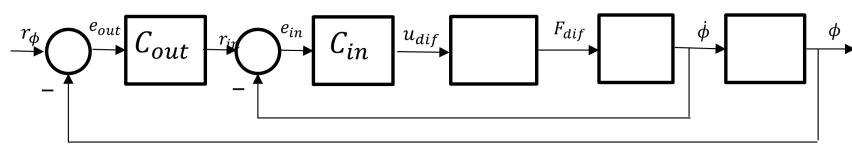

Figure 2: Controller block diagram for the drone.
The controller calculates  $u_{\text{dif}}$  and, in turn  $u_1$  and  $u_2$ , to ensure that  $\phi(t) \rightarrow r_\phi$ . The control system diagram is shown in Figure 2. As implied by this figure, we have assumed that both  $\phi$  and  $\dot{\phi}$  are perfectly measured. We will thus close two feedback loops in sequence, one to stabilize the  $\dot{\phi}$  dynamics and one to stabilize the  $\phi$  dynamics, as shown in the block diagram. This architecture is the cascaded control from class and is very common in control systems design. The feedback loop from  $r_{in}$  to  $\dot{\phi}$  is referred to as the "inner loop", and the entire system (with the inner loop in place) from  $r_\phi$  to  $\phi$  is referred to as the "outer loop". As we saw in class, with this architecture, controller design is done modularly: we first design the inner loop controller, and then design the outer loop, ensuring that the outer loop is slower (i.e. has longer settling time) as compared to the inner loop. You typically want the settling time of the inner loop to be at least 5 times smaller (i.e., faster) so that modularity is maintained. Thus, in the design of the outer loop, you can assume that the inner loop is at steady-state (i.e., is infinitely fast).
1. Write the dynamics (i.e. differential equations) of  $F_{\text{dif}}$  in terms of  $u_{\text{dif}}$ . Provide the new differential equations in your solution. Hint: take the time derivative of both sides of (6) and substitute in.
2. Re-write the dynamics in (3) in terms of  $F_{\text{dif}}$ . Note: just substitute in. Provide the new equations in your solutions.
3. Using the Laplace transform on the dynamics in Step 2 and substituting the values from the table on the last page of this document, derive the three transfer functions corresponding to the empty blocks in the block diagram shown in Figure 2. These will constitute your "plant". Complete the block diagram with your findings and include it in your submission.